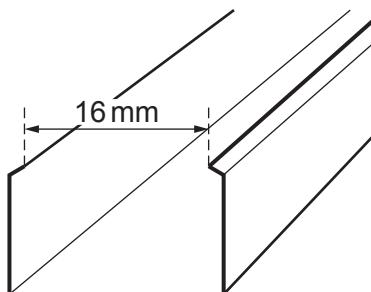

Fig. 2.1
- 1 The lid of the trunking should be removed. The two sides of the trunking should be approximately 16 mm apart at the top, as shown in Fig. 2.1.